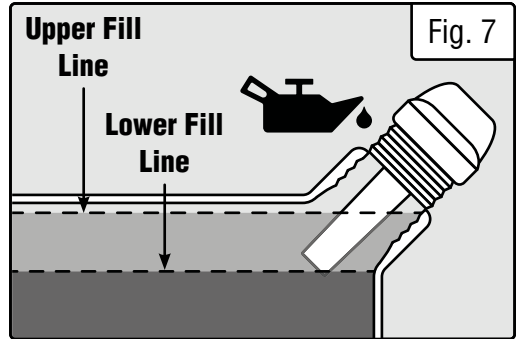

Fig. 7
3. Using a funnel, add the appropriate type and amount of oil into the crankcase. Fill the crankcase to the upper fill line so you can visually see the oil coming halfway up the oil fill threads (Fig. 7).